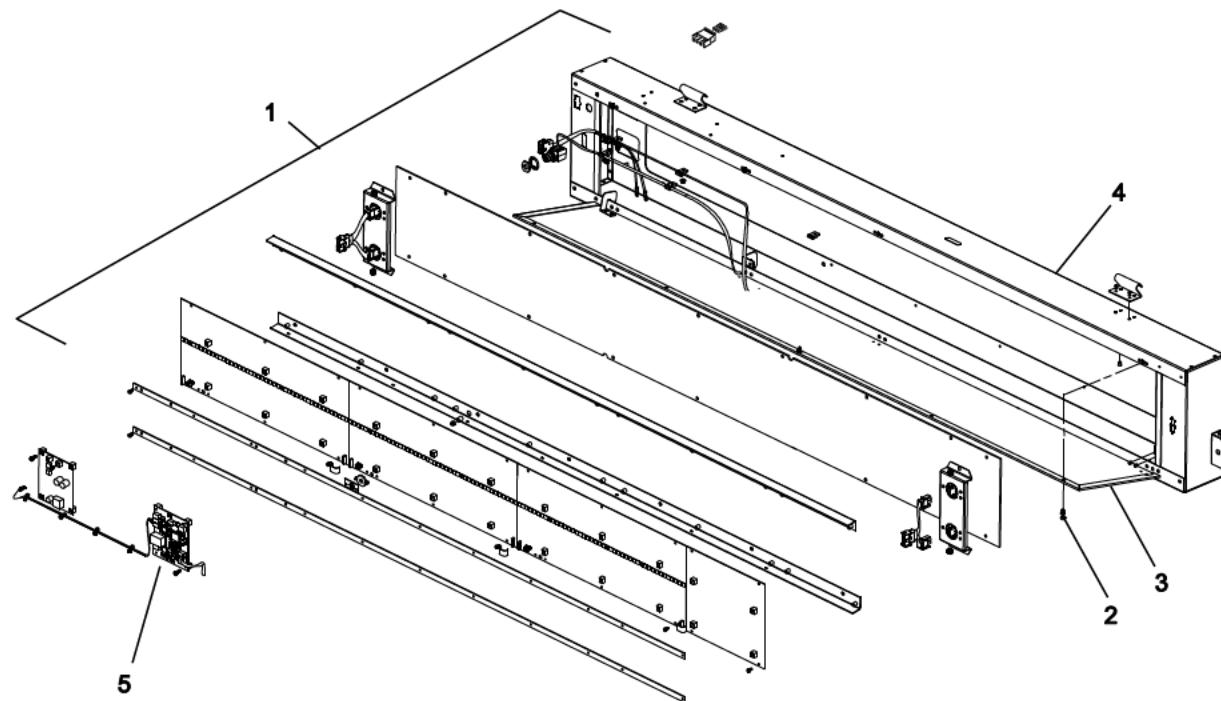

Figure 8-19: Replace Front Destination Sign Control PCB
1. Remove front destination sign assembly (1, Figure 8-19) from its mounted location.
2. Remove ten 6-32 x 5/16 SEM screws (2) that secure backplate assembly (3) to front panel assembly (4).
3. Carefully separate backplate assembly (3) from front panel assembly (4) to access electrical wiring and harnesses.
4. Tag and disconnect electrical wiring connectors from the control PCB (5).
5. Remove control PCB (5).
6. Install replacement control PCB (5) with RS-485 ports to the left.
7. Connect electrical wiring connectors to the control PCB (5).
8. Install the backplate assembly (3) to the front panel assembly (4) using ten 6-32 x 5/16 SEM screws (2).